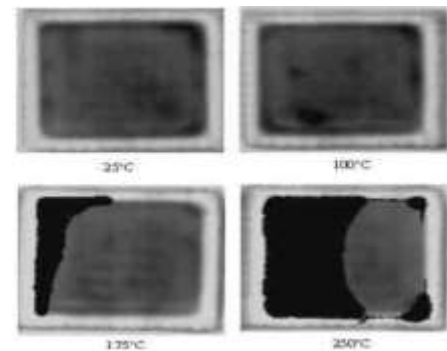

Fig. 2. Sample photo of delamination.
- Fig. 2 shows an example of delamination propagating from the perimeter of the silicon die, slowly peeling the die as temperature increases. The temperature in this case is reliability requirement in QFN devices representing the life of the product in the actual application.